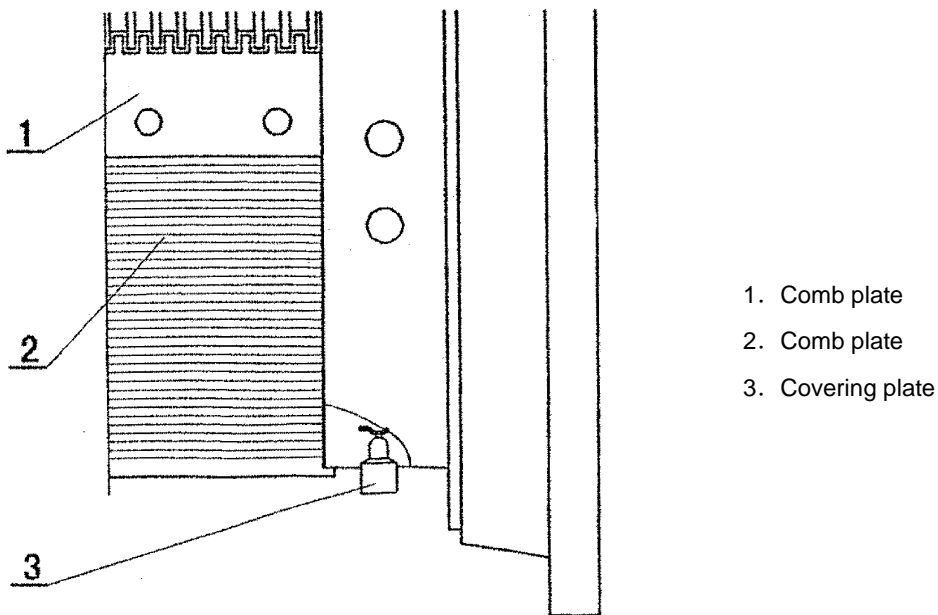

Figure 20 Adjustment of the comb plate and protection switch
6. Adjustment and operational test of the comb plate (Figure 20)